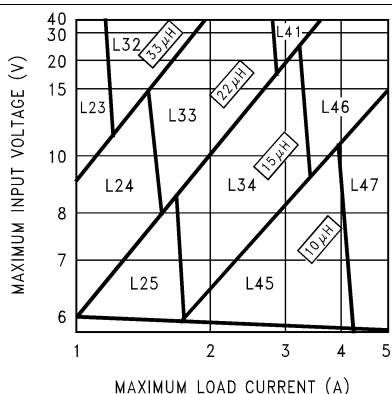

Figure 14. LM2679-3.3 V
Step 3: Determine the inductor required by using one of the four nomographs, Figure 14 through Figure 17. Table 3 provides a specific manufacturer and part number for the inductor.
Step 5: Determine an input capacitor from Table 7 and Table 8 for fixed output voltage applications. Use Table 1 and Table 2 to find the specific capacitor type. For adjustable output circuits select a capacitor from Table 1 and Table 2 with a sufficient working voltage (WV) rating greater than  $V_{IN\ max}$ , and an RMS current rating greater than one-half the maximum load current (2 or more capacitors in parallel may be required).
Step 3: Use the nomograph for the 3.3-V device, Figure 14. The intersection of the 16 V horizontal line ( $V_{IN \text{ max}}$ ) and the 4 A vertical line ( $I_{load \text{ max}}$ ) indicates that L46, a 15- $\mu\text{H}$  inductor, is required.